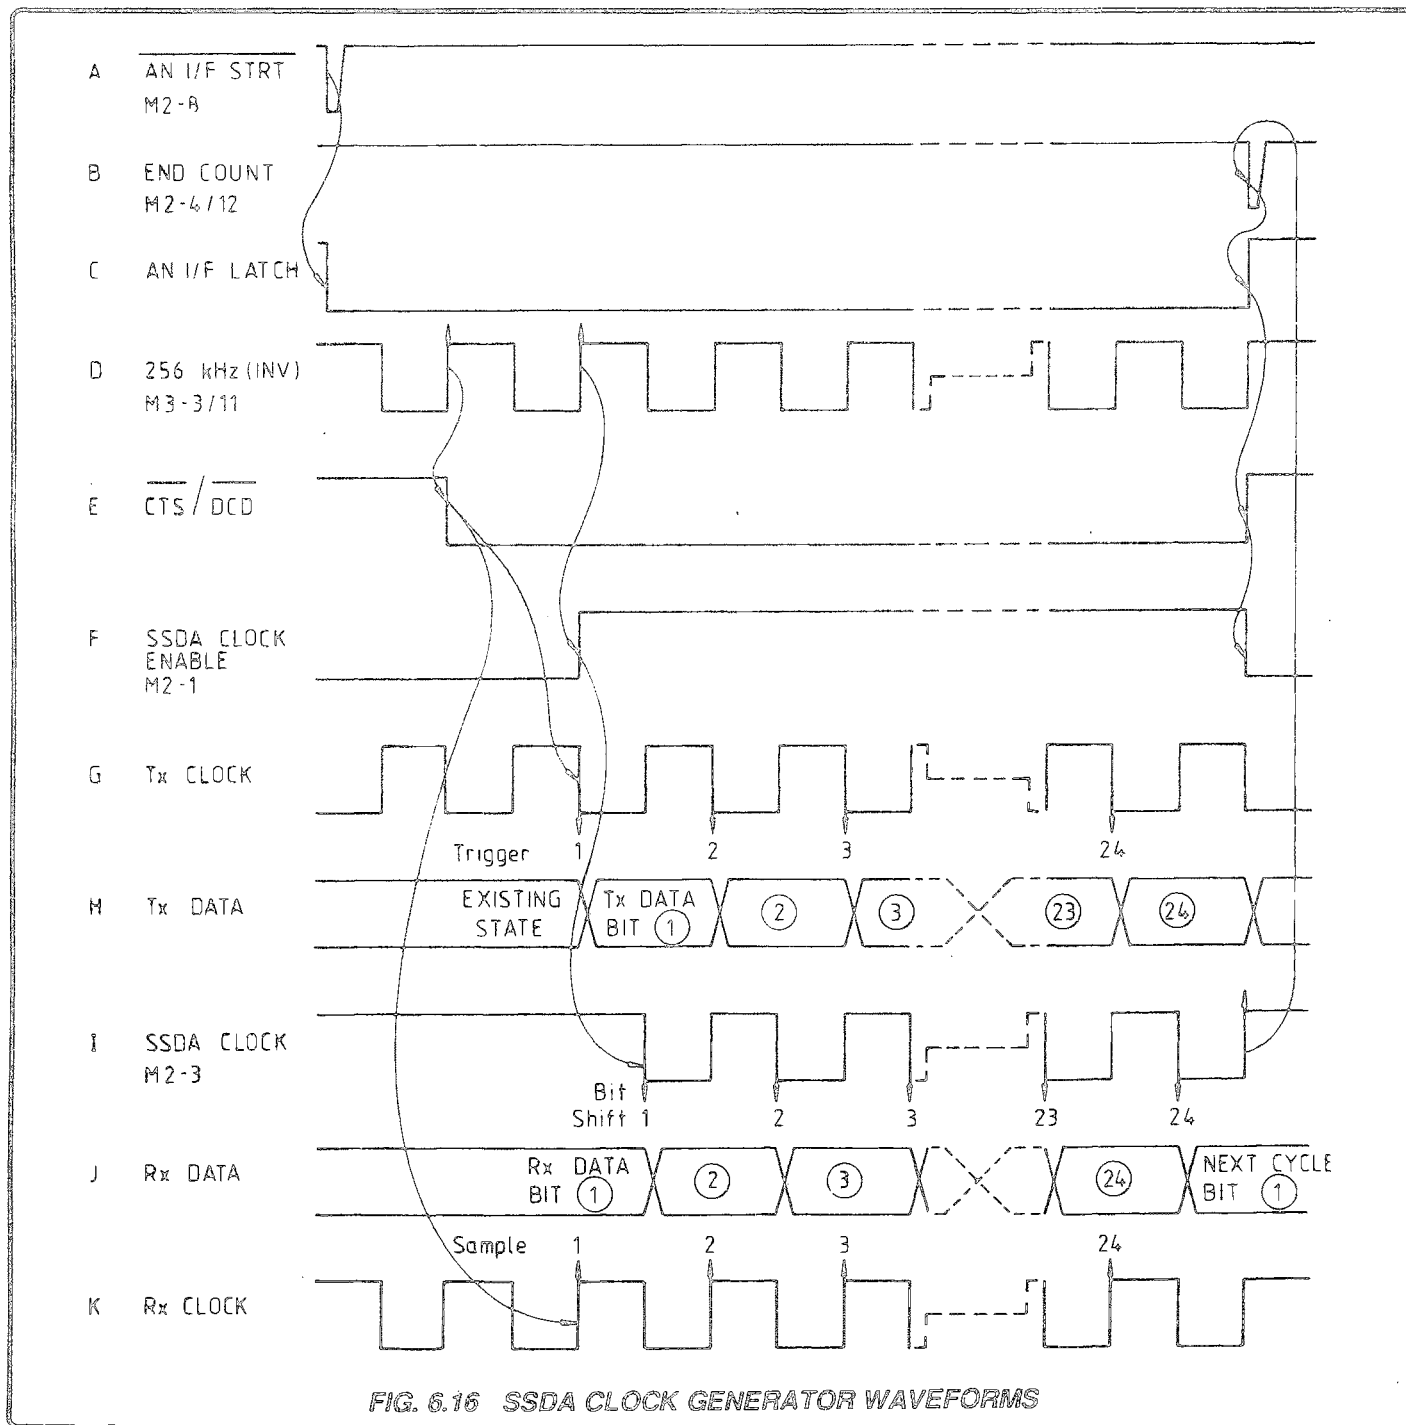

FIG. 6.16 SSDA CLOCK GENERATOR WAVEFORMS
6.4.4.1 SSDA, Tx and Rx Clock Action (Fig. 6.16)
After $\overline{\text{CTS}}$ is set to Logic-0, the negative transition of the first full positive pulse triggers the first serial Tx data bit setup. (Refer to Fig. 6.16 Waveforms G and H).
'Rx CLOCK' is an inverted version of the 256kHz squarewave. After $\overline{\text{DCD}}$ is set to Logic-0, the positive transition of the first full Rx clock cycle triggers the SSDA. The SSDA thus samples the first Rx data bit before the SSDA clock triggers the shift registers. (Fig. 6.16 Waveforms K and J).
'SSDA CLOCK' is also an inverted version of the 256kHz squarewave. The inversion allows approximately 2ms of data setup time for all serial data bits prior to clocking the data along the shift registers. SSDA CLOCK is gated at M2-3 by the action of M3-12 to ensure that the first Rx data is sampled before it is lost by the first bit-shift. 24 clock pulses are counted by M4, allowing 24 bits to be shifted before resetting the Analog Interface Start latch M2-11 (TP3) to Logic-1. (Refer to Fig. 6.16 Waveform I).
- Removes 'RESET' to enable counters M4 at M4-7 and M4-15. (Refer to Fig. 6.16 Waveforms A and C).
At the next rising edge of the inverted 256 kHz (Rx CLOCK) from M43-8 after $\overline{\text{ANI/F STRT}}$, the shift register M3 is clocked but only M3-1 'Q' output changes state to Logic-0. This is applied to the SSDA $\overline{\text{CTS}}$ and $\overline{\text{DCD}}$ inputs, thus releasing the inhibits on the SSDA transmit and receive registers. (Refer to Fig. 6.16 Waveforms D and E).
At the next (second) rising edge of the clock to M3, M3-12 changes to Logic-1. This allows NAND M2-3 to pass 256 kHz clock pulses via buffer M5-12 to the Reference Divider Assembly to shift the serial data string along the analog-control and status registers. (Refer to Fig. 6.16 Waveforms D, F and I).
- ii. NAND M2-5 to rise to Logic-1, re-setting flip-flop M2-12 to prepare for the next ANI/F STRT input. (Refer to Fig. 6.16 Waveforms I, E, C, E and F).